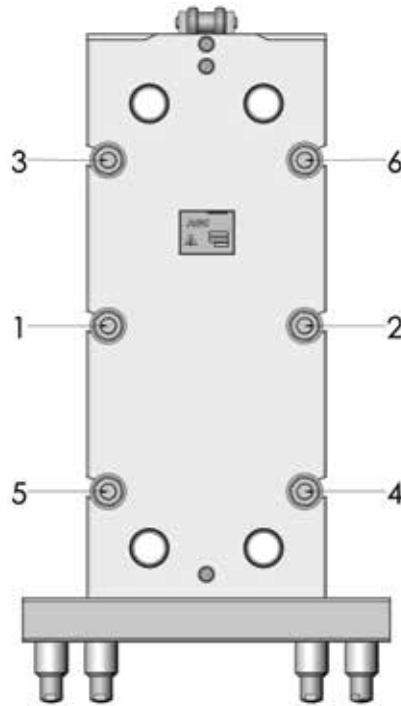

Figure 18
- Tie bolt frames typically use 6 tie bolts. **Figure 18** shows the recommended sequence for tightening the tie bolts. With the plates hanging freely, install all 6 tie bolts into the slots on the fixed end and follower, bringing them up to the follower just hand tight. Using a wrench tighten tie bolt #1 about 1/2 inch. Move the wrench to tie bolt #2 and tighten it about a half inch as well. This will move the follower about 1/2 inch. The 4 remaining bolts can then be tightened by hand to bring them snug between the fixed end and follower. Depending on the size of the plate pack, this sequence can be repeated many times. As the plates begin to provide more resistance to closing, the increments the tie bolts are tightened should be reduced to approximately 1/4". At this point the wrench will be required for all 6 bolts. Remember, the goal is to keep the follower parallel to the fixed end and flat against the plates. If all 6 bolts are not used equally when closing the press, the plates or press could be permanently damaged. By closing the bolts in the sequence shown, and using all 6 bolts, the amount of work necessary to close the press is reduced.